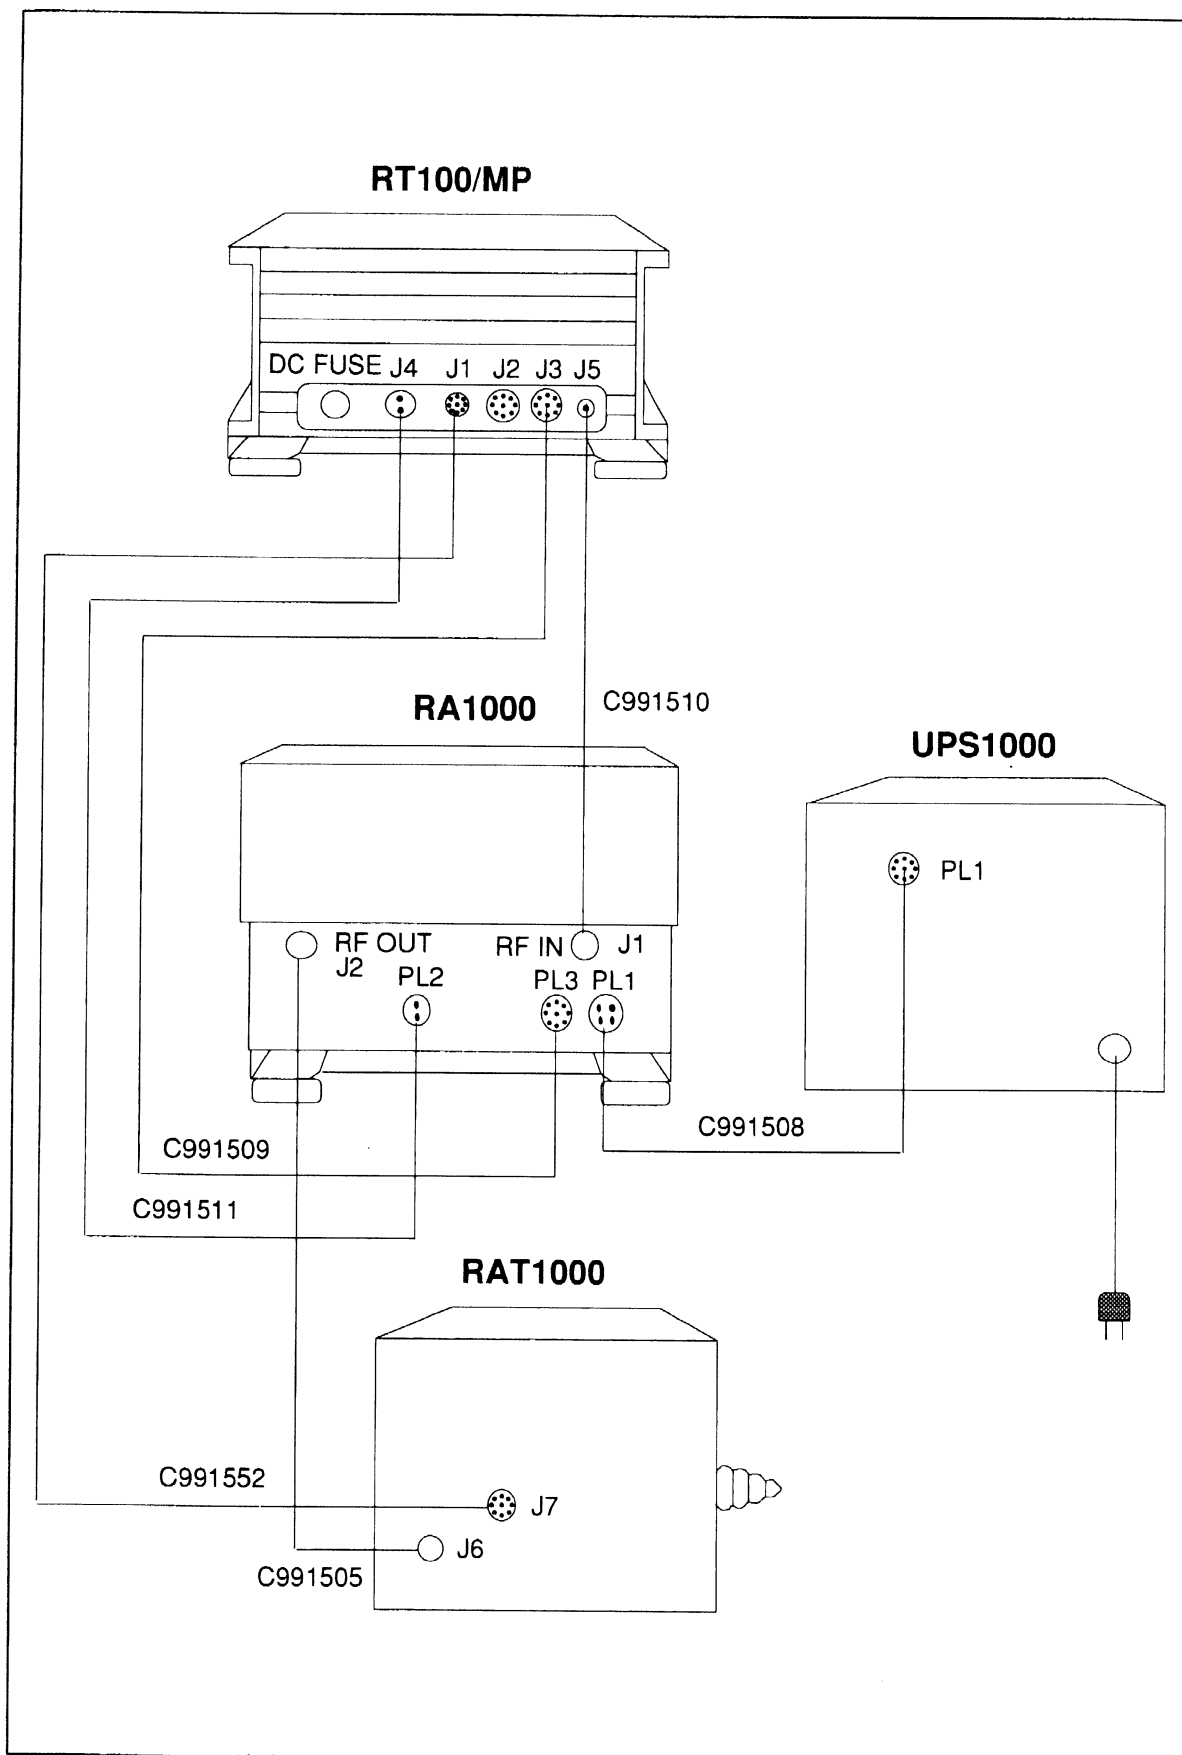

FIGURE 2-6.
The standard configuration has an RT100/MP with the +28-Vdc option and power received from the RA1000. See Figure 2-6.
2. Interconnecting cables are the same as used in Section 2.4.3.3, except that C991508 (See Figure 2-6) must be used between the UPS1000 power supply and the RA1000 amplifier.